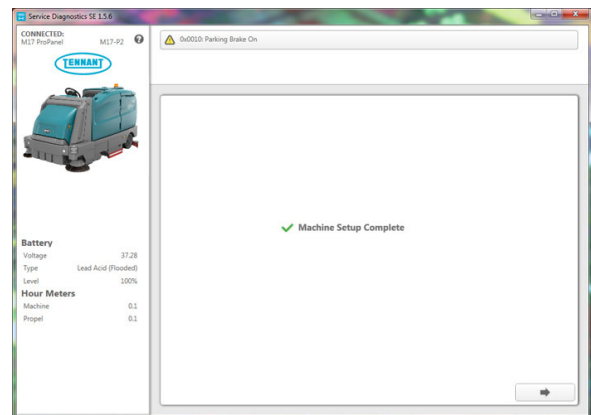

FIG. 23
- The Machine Setup Complete screen appears after configuration is complete. (Fig. 23)